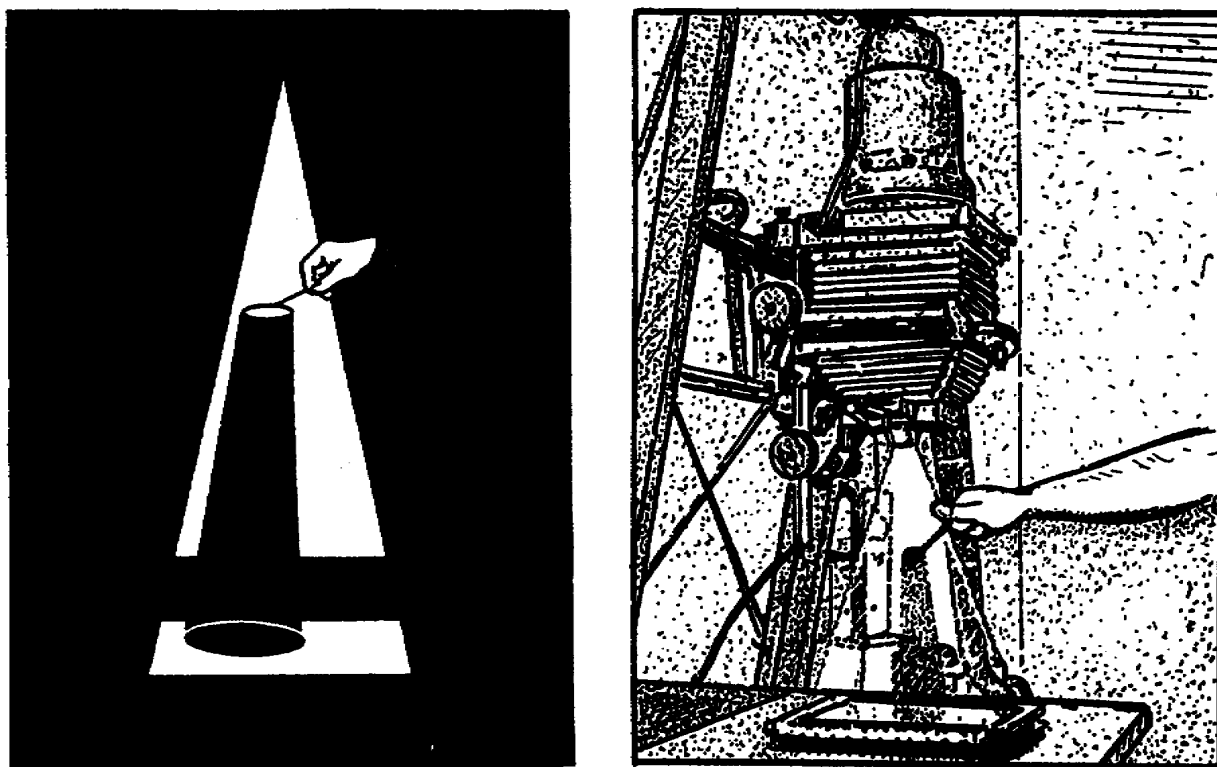

Figure 2-10. Using a wire-supported dodging device
c. Or, as shown in Figure 2-10, a dodging device can be made by placing an opaque, properly shaped piece of material on a wire handle. The shape of the dodging tool should approximate the shape of the image area to be lightened. It should also be slightly smaller than the area to be dodged. This is necessary because as the tool is moved further away from the paper, the area covered by its shadow increases. Although dodging is generally necessary for only part of the exposure time, the device used must be moved up and down slowly and constantly to blend the areas receiving various exposures together, thus preventing a sharp line between the area dodged and the other parts of the image.